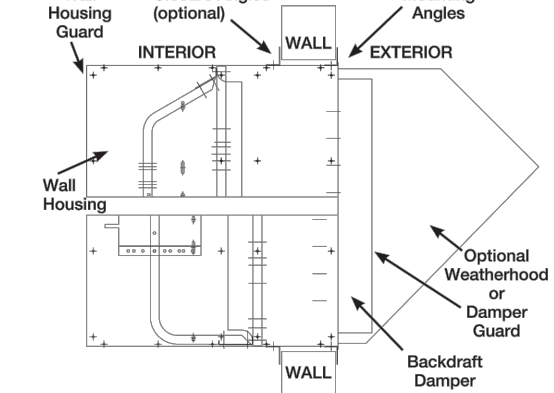

Figure 5 - Typical Installation Configuration (Exhaust/Supply)
1. Determine if a supply fan or exhaust fan is to be used in the wall housing (see Figure 5). Two rows of holes are provided for attaching the wall housing panels to the fan panel.
NOTE: Exhaust fans are mounted farthest from the damper end. Supply fans are mounted nearest to the damper end (see Figure 5). Damper end has small holes in face of the wall housing. The guard end has larger extruded holes.
6. A versatile feature of the Greenheck wall housing is a mounting flange which may be used in either a standard arrangement (Figure 5) or moved anywhere along the housing. This permits the distance the wall housing protrudes outside or inside the wall to be varied.